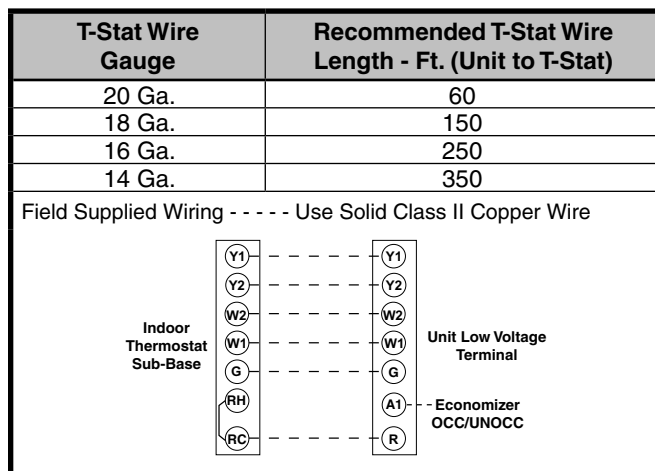

Figure 10. Typical 2 - Stage Heat/Cool Thermostat Connection
- A two-stage heating/cooling thermostat is required for R7TQ series units. Select a thermostat which operates in conjunction with the installed accessories. See Figure 10 for proper wire gauge and their recommended lengths for typical thermostat connections.
- The low voltage wires must be properly connected to the units low voltage terminal block. Route 24V control wires through the compressor/gas furnace side of the unit, then up through bottom of the control panel using grommet in front of the low voltage terminal strip. Recommended wire gauge and wire lengths for typical thermostat connections are shown in Figure 10 \(page 13\).